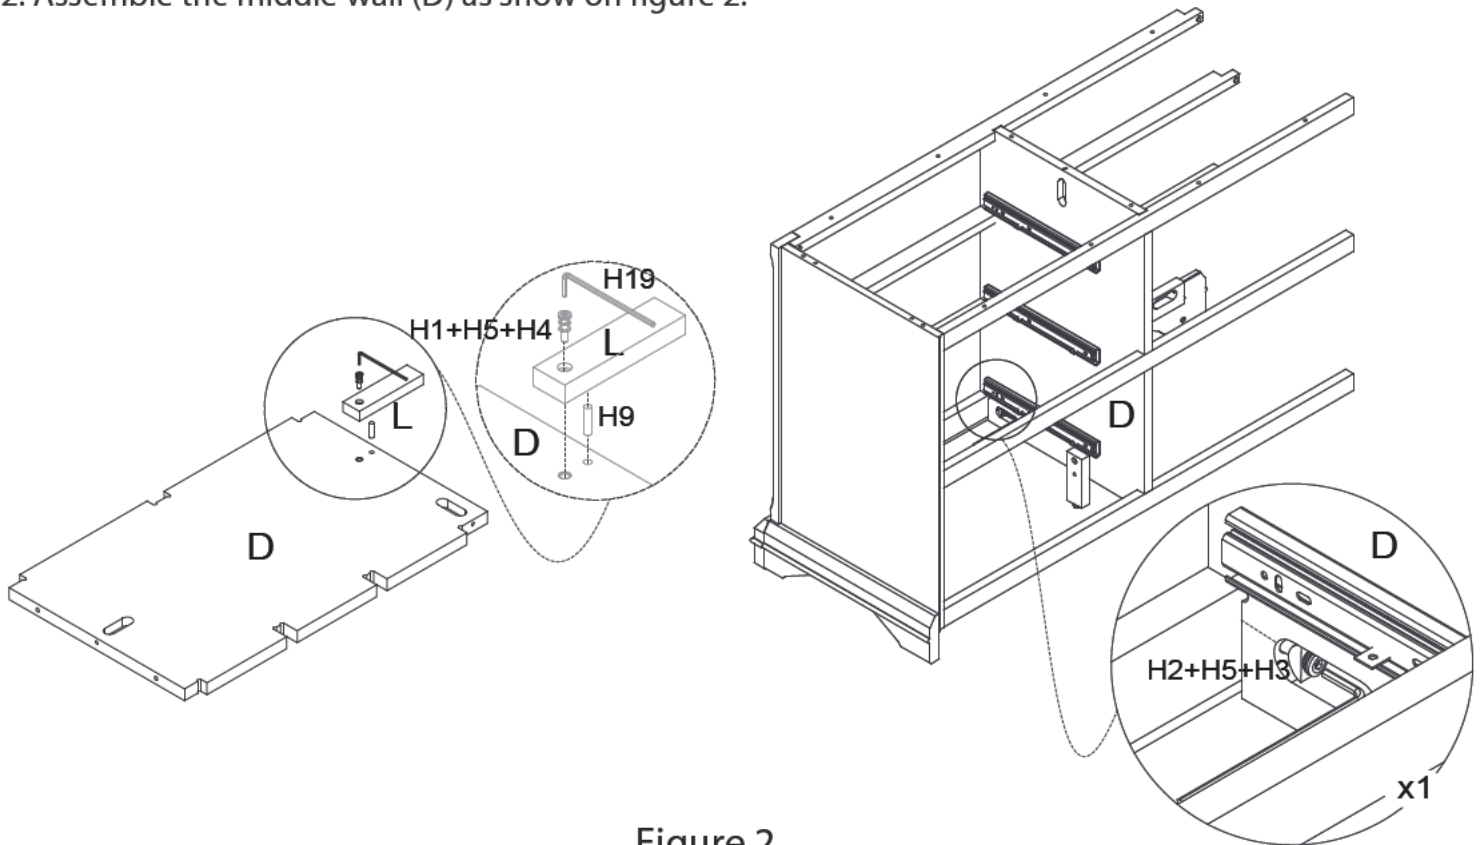

Figure 2
2. Assemble the middle wall (D) as show on figure 2.
2. Slide Drawer Bottom (R5) and into drawer Bottom Support (R6) assembly as Figure 2.